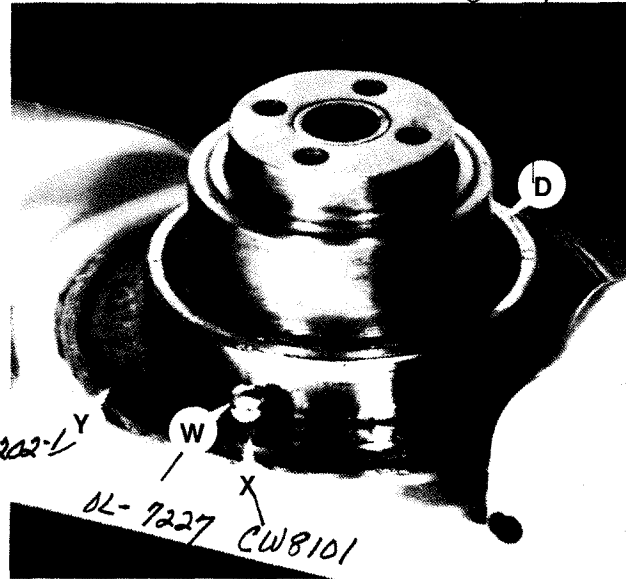

Figure 2.23 - Post for Turret Body and Components
17. Remove ball "W", spring "X", and sealing ring "Y", Figure 2.23 .
Knockout holes have been provided in the turret body for bearing removal in the event that lower bearing "D", Figures 2.23 and 2.24, remains with the turret body.
1. Replace ring "Y", spring "X", and ball "W", Figure 2.23 .